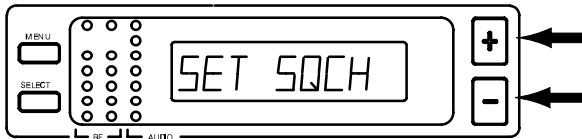

FIGURE 26
- Press either the + or - button to reach the "SET SQCH" display, shown in Figure 26.